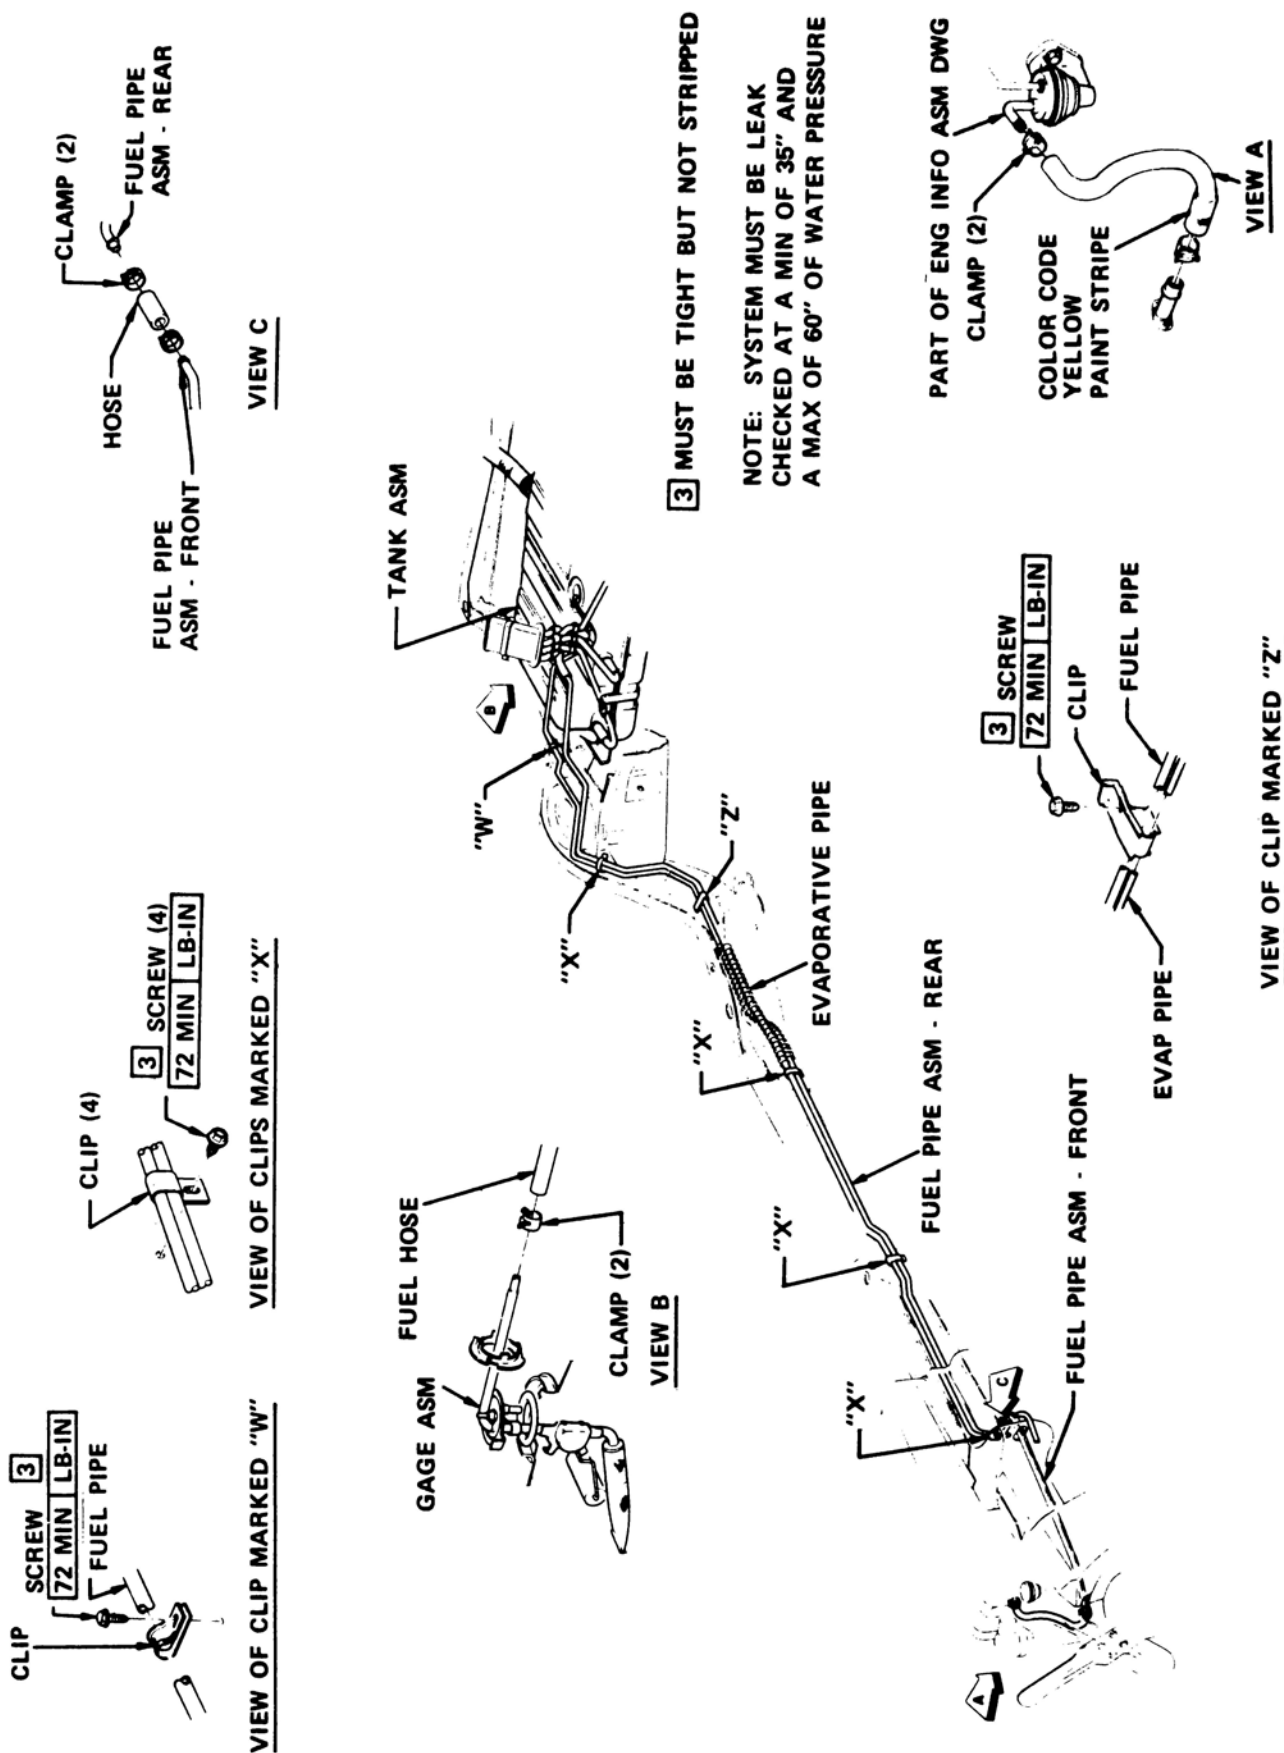

Figure 80-3 Fuel System - (V-8) Skylark, Skylark Custom and G.S.
In all models, except station wagons, the fuel tank is attached under the trunk pan by two (2) straps. On "A", "B" and "C" models the filler neck extends from the rear upper center of the tank to a point just forward of the rear bumper. On the "E" model, the filler neck exist from the left rear corner of the tank. See Figures 80-3, 4, and 5. To fill the tank, pull down the spring-loaded license plate bracket and remove the filler cap.
All station wagons have the fuel tank mounted in the left rear quarter panel area. See Figure 80-3. To fill the tank, lift the spring-loaded filler door and remove the filler cap.
Filler necks are soldered into the tank in all series cars. See Figures 80-3 thru 80-5.
In station wagons, the tank is vented during filling by the filler neck. See Figure 80-3.